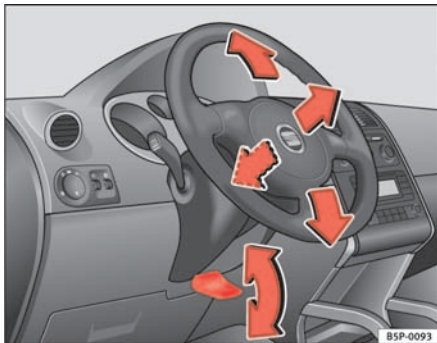

Fig. 129 Adjusting the steering wheel position
- Push the lever under the steering column ⇒ fig. 129 down ⇒ ⚠.